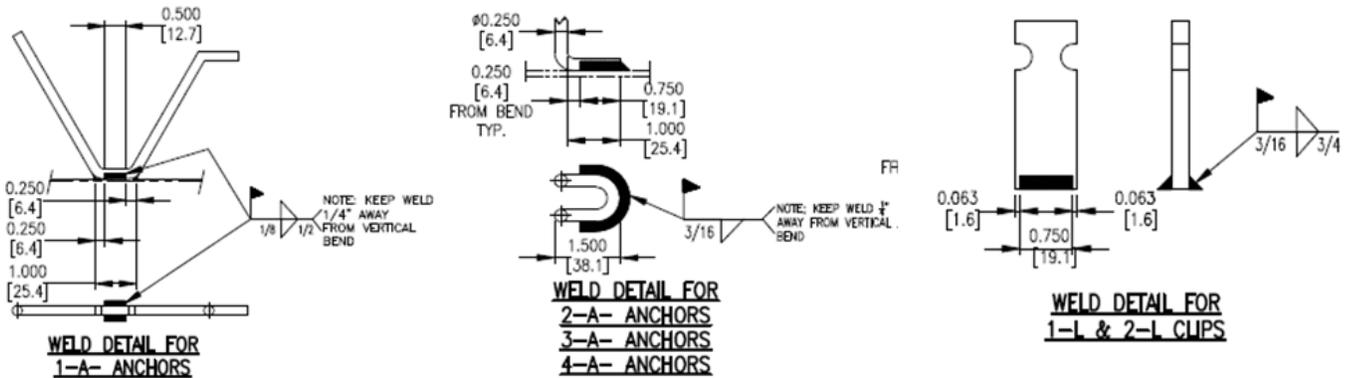

Figure 9. Weld Details for Anchors and Clips Commonly Used in Cement and Lime
- b. Keep the weld at least  $\frac{1}{4}$ " (6.4mm) away from any vertical bends as welding changes the structure of the metal and could weaken the bend of the anchor. See Figure 9, below.